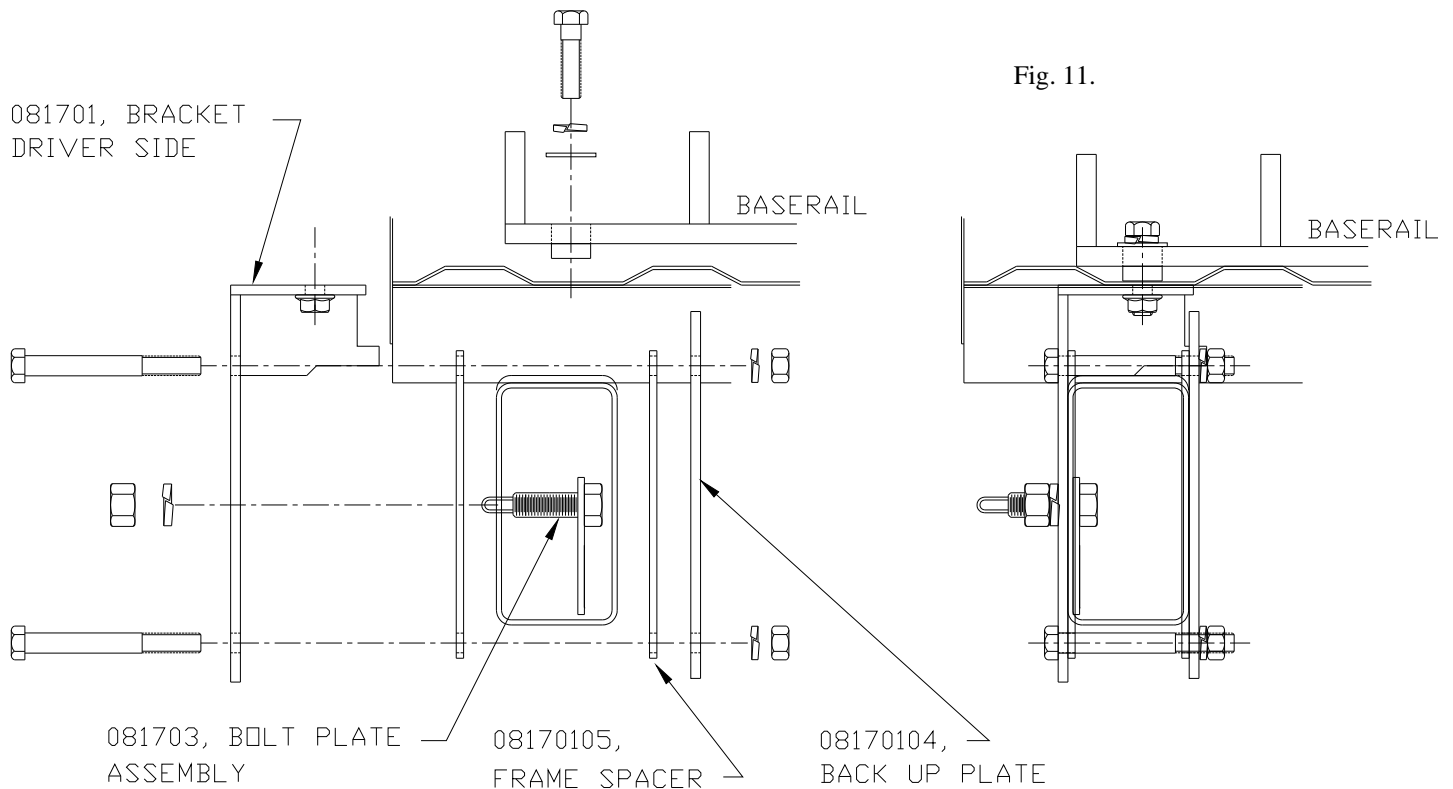

Fig. 12.
11. Referring to figures 12 through 14, attach the Rear Mounting Bracket Driver Side P/N: 050901, Passenger Side P/N: 050902 using a 1/2"-13 x 7 1/2" bolt, Center Hole Back Up Plate P/N: 05070302 and 1/2"-13 flange nut. This bolt will pass vertically through the frame via an existing hole, finger tighten only.